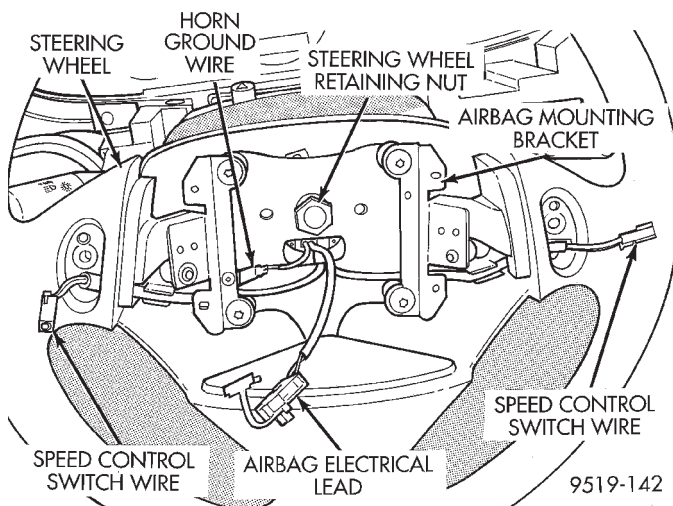

Fig. 9 Steering Wheel Wire Routing And RetainingNut
(13) Disconnect the clockspring, horn ground wire from airbag mounting bracket in steering wheel (Fig. 9).
(14) Remove the steering wheel retaining nut (Fig. 9).
(11) Feed clockspring wiring leads through hole in steering wheel (Fig. 9). Position steering wheel on shaft of steering column assembly, making sure to fit flats on hub of steering wheel with formations on inside of clockspring.
(12) Connect the horn ground wire from the clockspring on the airbag mounting bracket in steering wheel (Fig. 9).
(13) Install steering wheel to steering column shaft retaining nut and tighten until steering wheel is fully installed on shaft. Tighten steering wheel retaining nut to a torque of 61 N·m (45 ft. lbs.).
(14) Correctly route the speed control switch wiring leads from the clockspring to switch openings in steering wheel (Fig. 9).
(15) Connect the clockspring electrical leads to the speed control switches. Install the speed control switches in the steering wheel. Install and securely tighten screws attaching the speed control switches to the steering wheel.
(16) Push the speed control wires into the wire retaining channels on the steering wheel (Fig. 9).